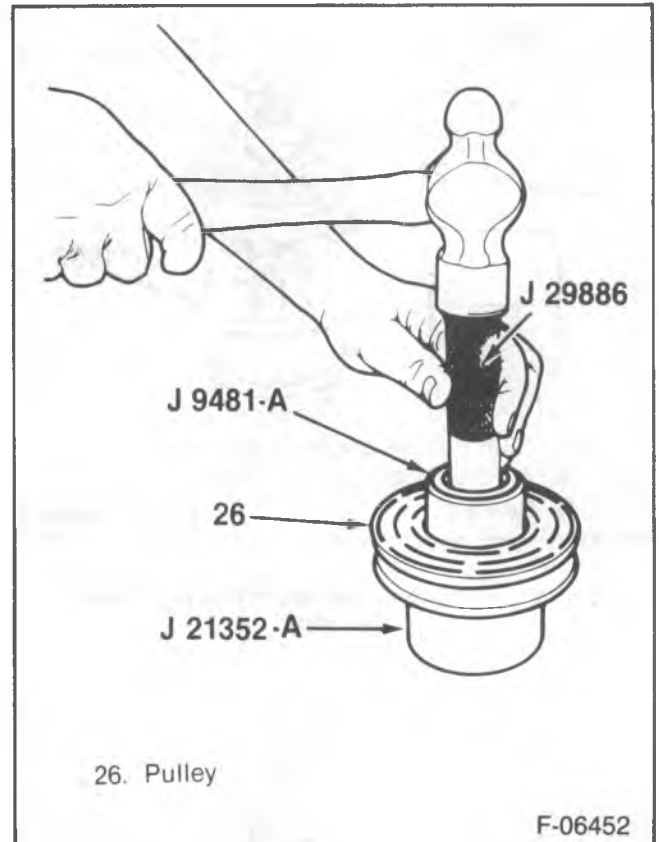

Figure 12—Installing the Pulley Rotor Bearing
1. Pulley (26) on J 21352-A (figure 12).
2. Pulley bearing (25) into the hub using J 29886, J 9481-A and J 21352-A (figure 12).
- J 33019 in the pulley bore (figure 12).